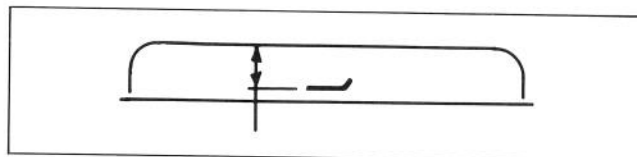
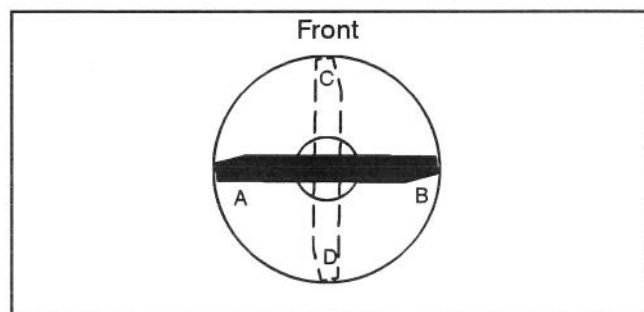
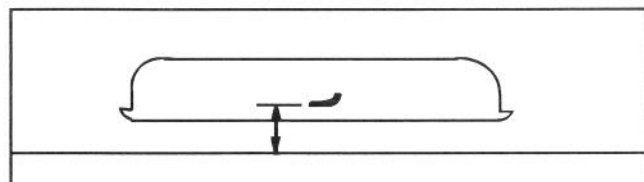

Figure 9
Figure 12
Figure 13
1. Rotate blade until the ends face forward and backward (Fig. 9). Measure from inside of cutting unit to cutting edge at front of blade (Fig. 9), and remember this dimension.
1. Position blade(s) front-to-rear (Fig. 12). Measure at "C" and "D" locations (Fig. 12), from level surface to the cutting edge of blade(s) (Fig. 13).
1. Position blade(s) side-to-side (Fig. 12). Measure at "A" and "B" locations (Fig. 12), from level surface to the cutting edge of blade(s) (Fig. 13).
NOTE: If you are unable to adjust front-to-rear pitch or side-to-side leveling with thrust washers on front castor shaft(s) check blade location in deck. Measure at "A, B, C, D" (Fig. 12) from cutting edge of blade to inside of deck (Fig. 9). Difference between measurements must